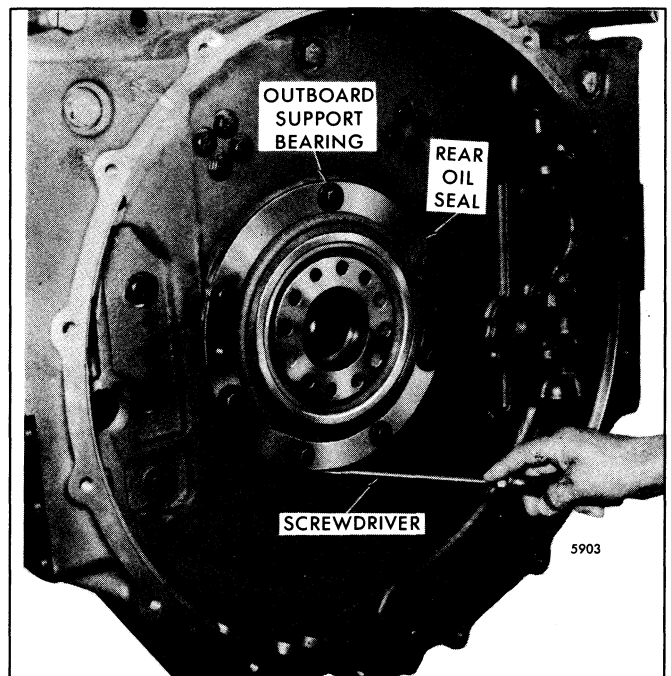

Fig. 9 - Tightening the Outboard Bearing Support Attaching Bolts
8. Attach the flywheel lifting tool and using a chain hoist, position the flywheel into the flywheel housing (see guide studs, Fig. 9). Align the flywheel bolt holes with the crankshaft bolt holes. Push the flywheel in evenly to prevent damage to the oil seal. Then, continue the installation of the flywheel as outlined in Section 1.4 of the Service Manual.